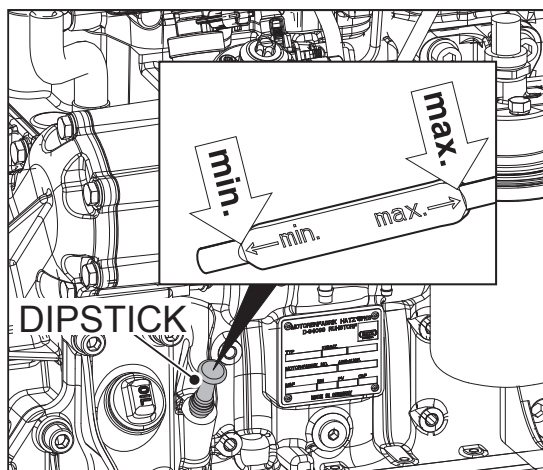

Figure 7. Engine Oil Dipstick
4. Remove the dipstick and check the oil level (Figure 7).